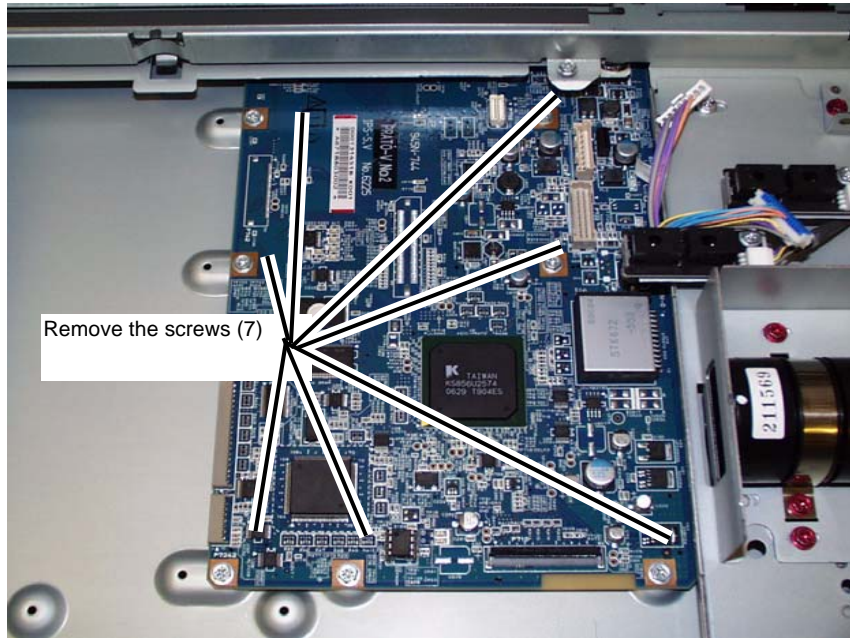

Figure 8 Removing the screws (7)
10. Remove the IIT/IPS PWB. (Figure 8)